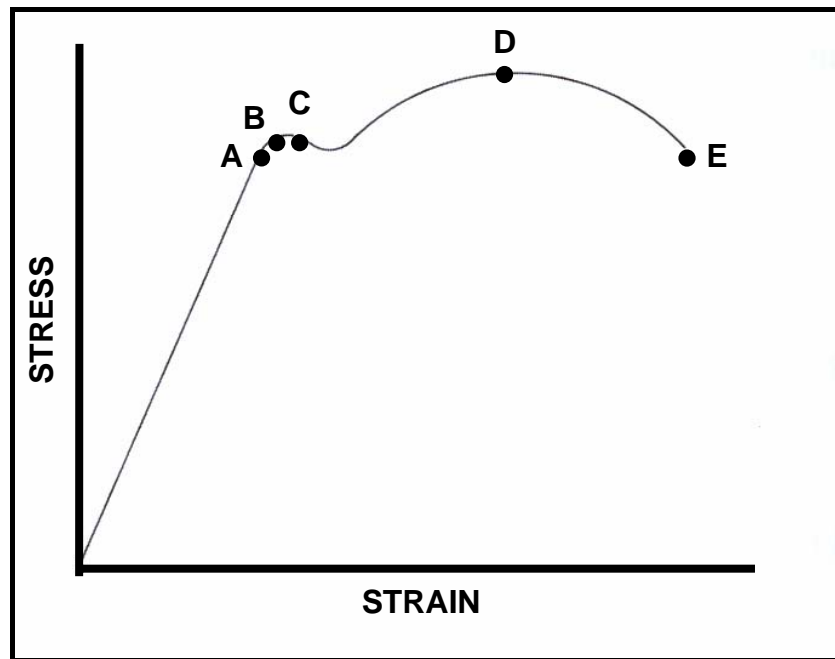

FIGURE 1.5
1.12 The stress-strain curve for low-carbon steel is shown in FIGURE 1.5. What does point A in the figure denote?